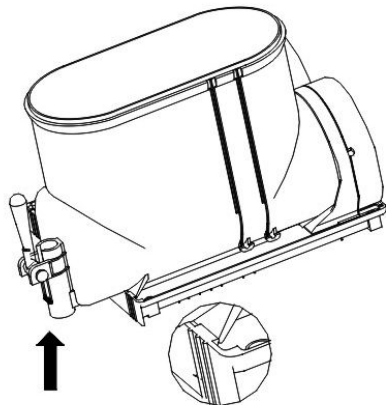
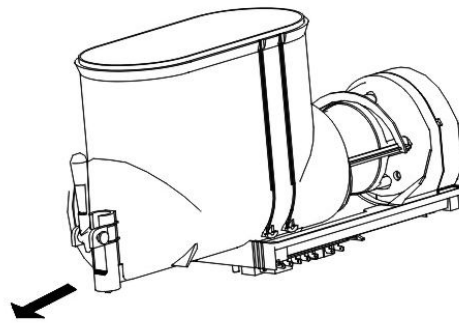

figure 1
figure 2
3. Remove the bowl by lifting its faucet side up and off the fastening hooks (fig.1) and slide it out (fig.2)